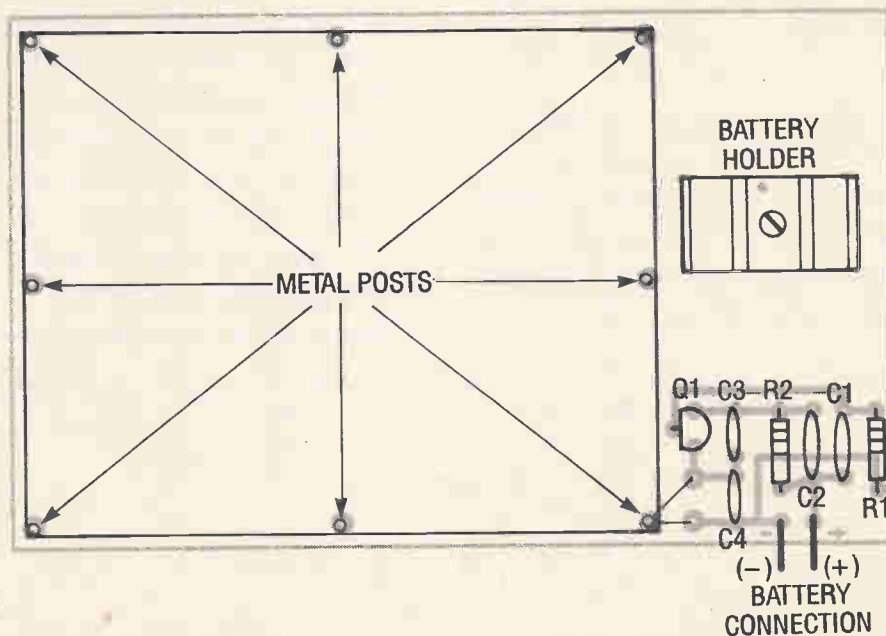

Figure 2. Parts-Placement Diagram. Be sure to install Q1 with its flat side facing the direction shown.
1. Assemble the metal detector following the parts layout shown in Figure 2, the Parts List, and the schematic. Be sure to use only 60/40 rosin-core solder. As with every other project in this magazine, using acid-core solder will destroy your work!